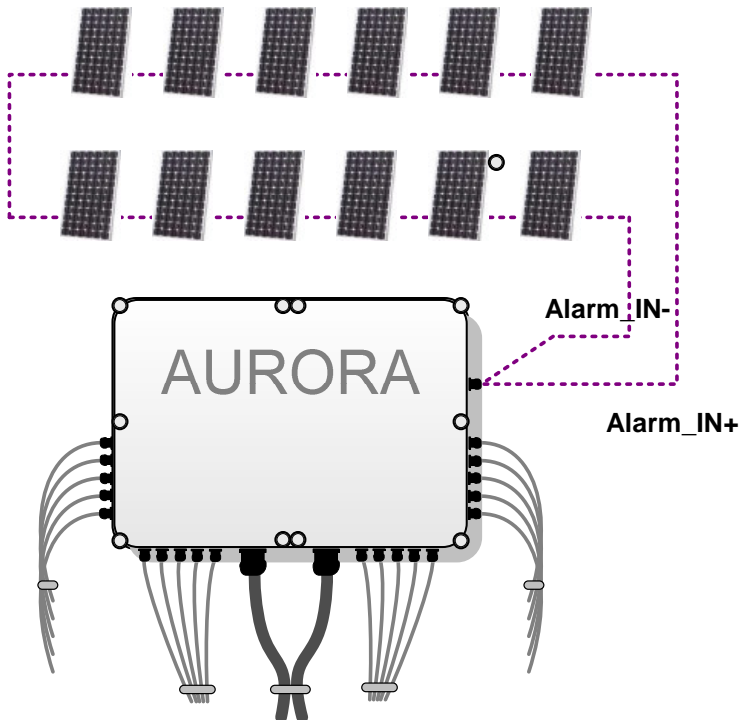
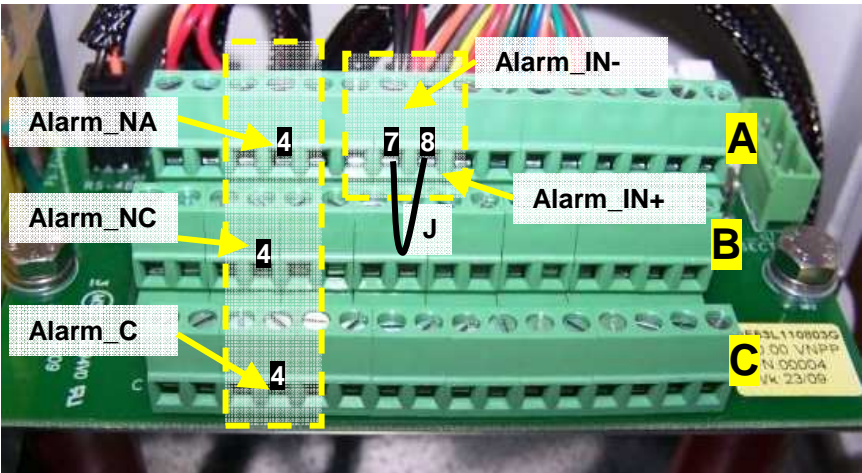

Figure 9-10: Example of antitheft system connection
Figure 9-11: Terminals for antitheft system alarm connection
Remove the jumper (J) provided as standard and connected between the terminals 7-8 of the Terminal Block A (Figure 9-11).
Connect the antitheft system input wire as shown in Figure 9-10, Figure 9-11, Table 9-4.
Alarm signal can be remotely controlled not only via the monitoring software, but also through the built-in auxiliary contact (Figure 9-11, Table 9-4 “X4”). (Ref.§Appendix A: Technical Data).